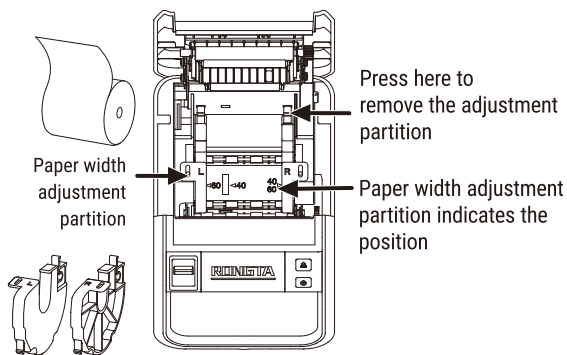

Figure 6
- 2) Make sure that the printing side of the paper roll faces forward, and place the paper width adjustment partition according to the size of the paper roll (see the tip at the bottom of the paper bin, as shown in Figure 6 below)
⚠ Note: When using 40mm/60mm linerless or continuous paper, the paper width adjustment partition should be placed on the left and right sides of the paper storage room. When using 40mm paper roll, the left paper width adjustment partition should be placed at the 40mm mark at the bottom of the paper storage room. When using 80mm liner less or continuous paper, the paper width adjustment partition is not needed. Press the raised part above the paper width adjustment partition to easily lift it up, as shown in Figure 6 above.